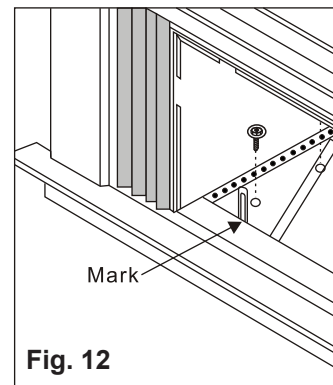

Fig. 12
1. Hold each support bracket flush against outside of sill and tighten to bottom of cabinet as shown in Figure 12. Mark brackets at top level of sill and remove.